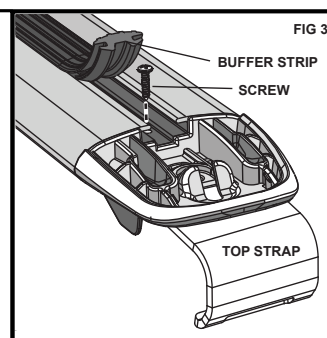

FIG 3
4. Push rubber Buffer Strip back about 20mm until you can see the screw hole in the cross bar. Using a Phillips head screwdriver, fasten the Pan Head Screw through the Cross Bar and into the End Support Chassis (Fig 3). Replace Buffer Strip.